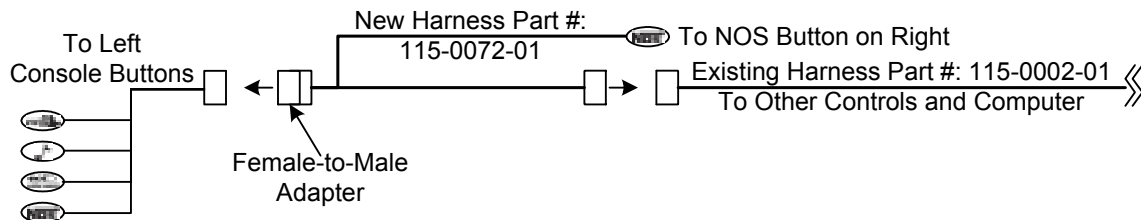
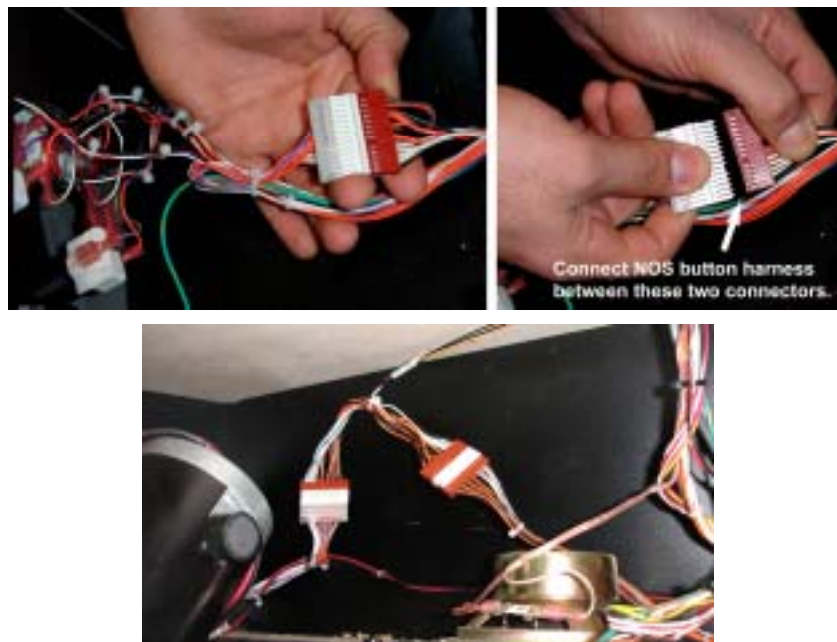

Figure 11. NOS Button Connections Diagram
Figure 12. NOS Button Harness Connectors
- Re-install the bezel on the cabinet, being careful to route the harnesses from the NOS button and SmartCard reader into the cabinet. Secure the bezel with the two (2) bolts at the top of the cabinet. Replace the marquee support bracket and secure it with the 6 (six) bolts.
5. Refer Figure 11 and Figure 12, and disconnect the 15-pin button connector from the cabinet harness (Part # 115-0002-01) and connect it to the new harness from the right NOS button. (The NOS button harness requires a female-to-male adapter that should already be connected.)